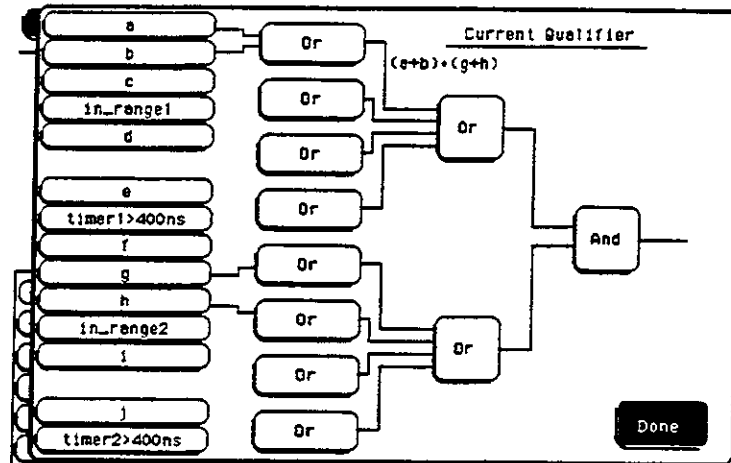

Figure 6-2. Complex qualifier
The qualifier for the state trigger subsystem can be terms A through J, Timer 1 and 2, and Range 1 and 2. In addition, qualifiers can be the NOT boolean function of terms, timers, and ranges. The qualifier can also be an expression or combination of expressions as shown below and figure 6-2, "Complex Qualifier," on page 6-11.
- An expression must map into the combination logic presented in the combination pop-up menu within the STRigger menu (see figure 6-2 on page 6-11).
Figure 6-2 shows a complex expression as seen in the State Trigger menu.
Figure 6-2 is a front panel representation of the complex qualifier (a Or b) And (g Or h). The following example would be used to specify this complex qualifier.
The terms **A** through **J** are defined by the **TERM** command. The meaning of **IN_RANGE** and **OUT_RANGE** is determined by the **RANGE** command. Expressions are limited to what you could manually enter through the State Trigger menu. Regarding parentheses, the syntax definitions below show only the required ones. Additional parentheses are allowed as long as the meaning of the expression is not changed. See figure 6-2 for a detailed example.
A detailed example is provided in figure 6-2 on page 6-11.
Expressions are limited to what you could manually enter through the State Trigger menu. Regarding parentheses, the syntax definitions below show only the required ones. Additional parentheses are allowed as long as the meaning of the expression is not changed. A detailed example is provided in figure 6-2 on page 6-11.